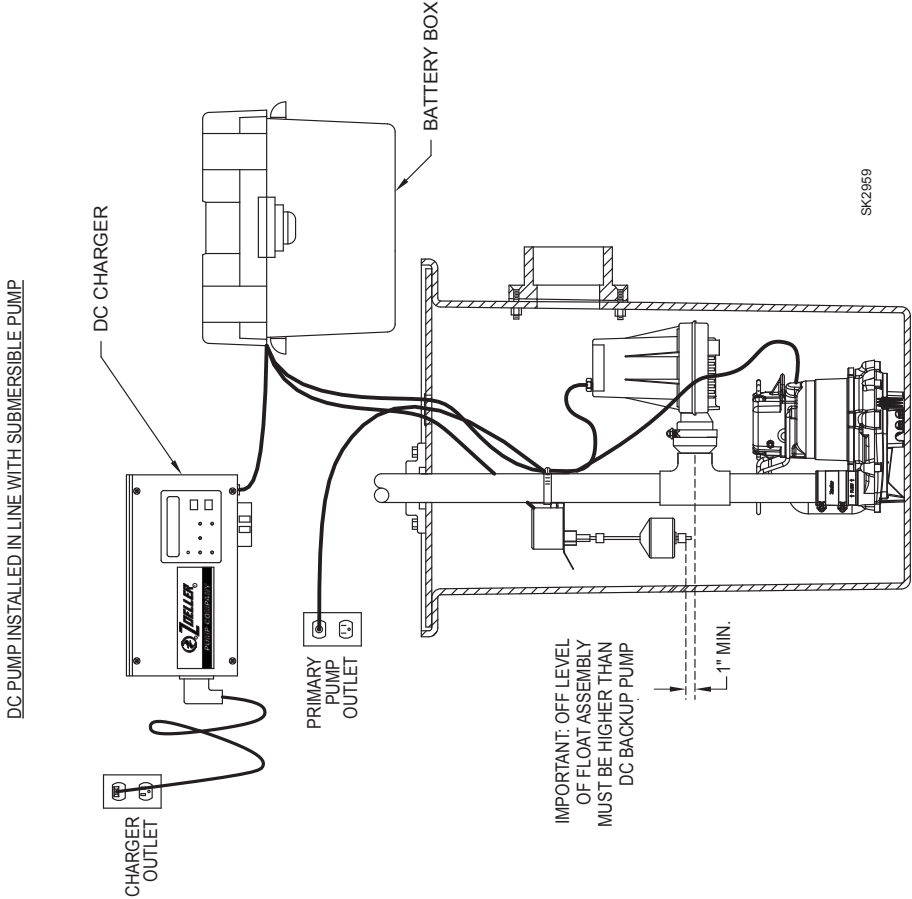

FIGURE 1
1. The preferred method of installation for backup pumps is shown in Figures 1 and 2. The installation kit includes the necessary fittings and one check valve for installing with the backup pump discharging into the primary pump outlet pipe. An additional check valve is incorporated in the discharge of the backup pump.
10. Install the float switch assembly bracket above the outlet tee using the clamp provided (see figures 1 and 2). Make certain the clamp is tight on the pipe to avoid slippage. Use electrical tape below the clamp to help prevent the clamp from moving. Ensure that the "off" level of the float is 1" min. above the discharge tee of the DC backup pump (see figures 1 and 2). Position pumps in the sump and move float up and down, making sure of free movement without interference from any obstructions inside the sump or lid. Very shallow sumps may require some adjustment to avoid overfilling or backing up of water into the sump inlet. The float switch can be moved on the discharge pipe or the rubber stops can be adjusted as necessary. Cut extra float rod length below lower float stop to prevent debris from interfering with float operation.